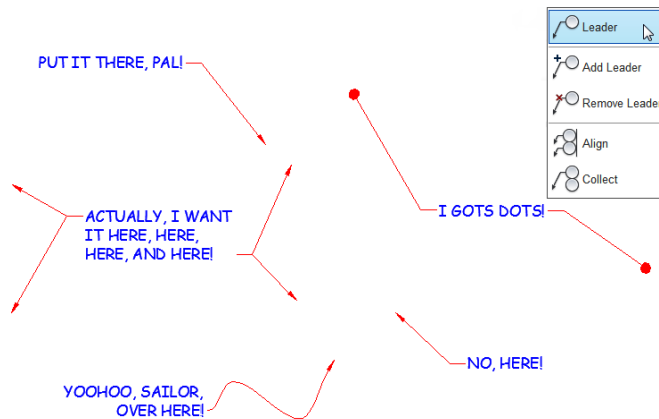

FIGURE 13-9:
Figure 13-9 shows several different leaders with notes.
- » **MLeaderEdit:** Use this command to add or remove leader lines from multileader objects. You'll find each of those functions on the Multileader drop-down list (refer to Figure 13-9).